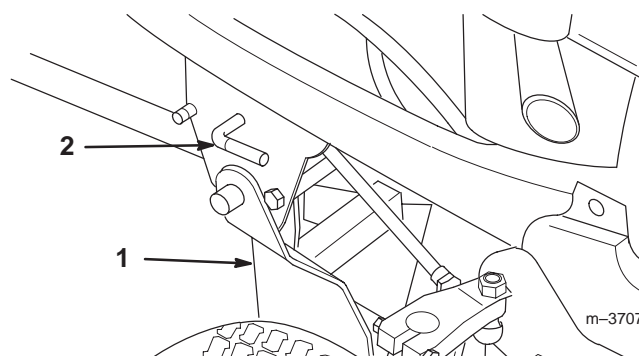

Figure 15
D. Use the crank support as a lever to lift the snowthrower frame until its connecting pins are completely inside the notches in the mid Attach-A-Matic™ hitch (Fig. 15).
E. Turn the mid Attach-A-Matic™ hitch lever counterclockwise to lock the snowthrower in place (Fig. 15).